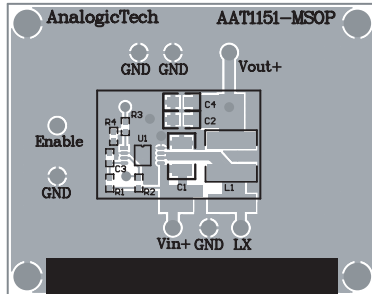

Figure 2: MSOP Evaluation Board Top Layer.
The input capacitor RMS ripple current reaches a maximum when  $V_{IN}$  is two times the output voltage where it is approximately one half of the load current. Losses associated with the input ceramic capacitor are typically minimal and are not an issue. Proper placement of the input capacitor can be seen in the reference design layout in Figures 2 and 4.
Figures 2 through 5 display the suggested PCB layout for the AAT1151. The following guidelines should be used to help ensure a proper layout.
- Low pass filter R1 and C3 provide a cleaner bias source for the AAT1151 active circuitry. C3 should be placed as closely as possible to SGND (Pin 2) and VCC (Pin 4). See Figures 2 and 7.